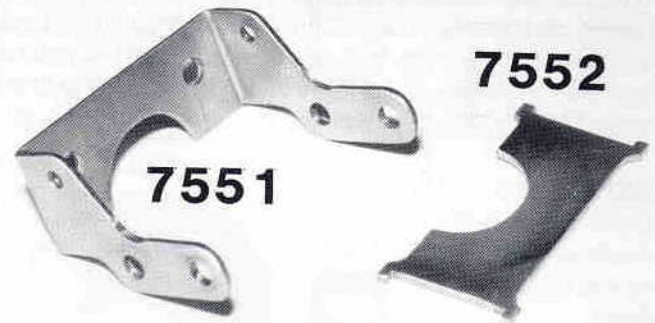

Fig. 91
- **Fig. 91** From bag 7-13 remove the #7551 steel brake bracket and #7552 steel brake shoe.